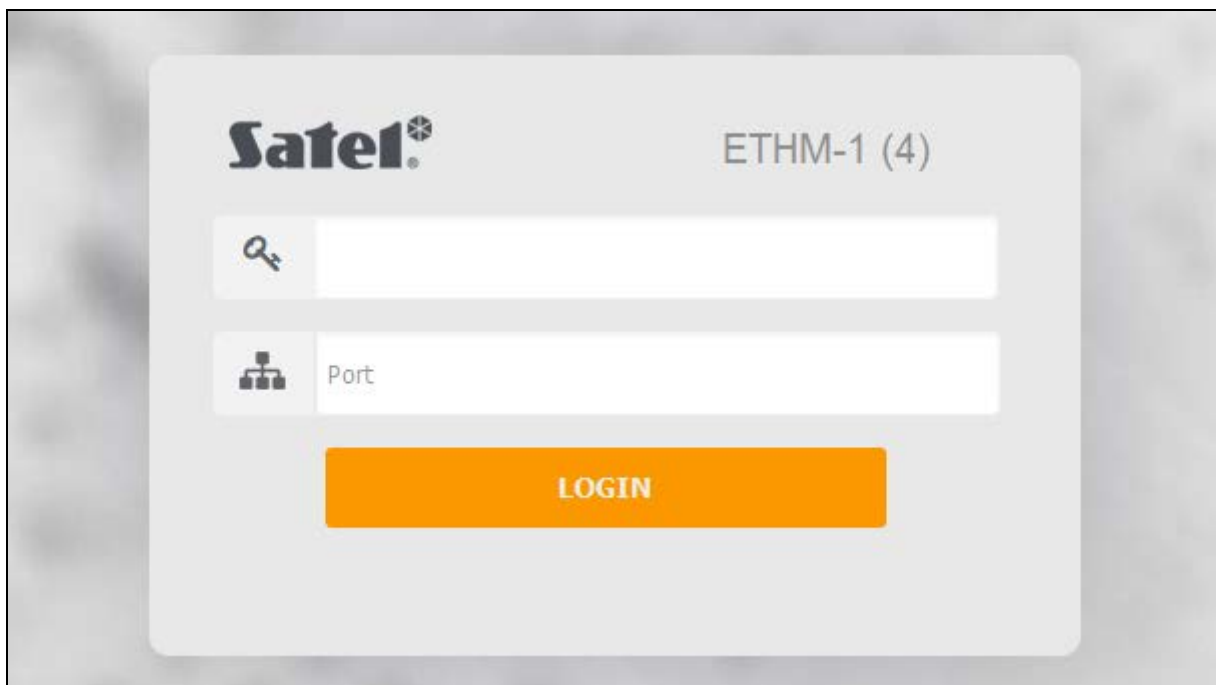

Fig. 19. Web browser: login page.
3. When the login page displays (Fig. 19), enter in the corresponding fields: